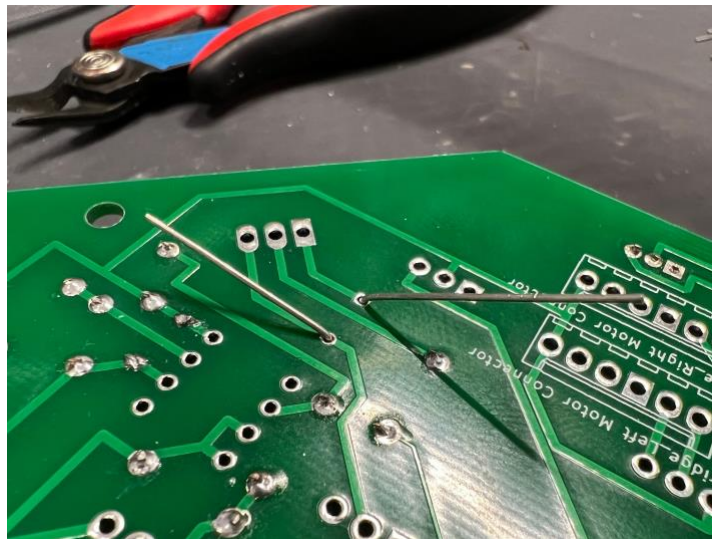

Figure 3.2: Picture of backside of PCB showing how to bend inserted leads to secure part for soldering.
2. Begin to solder the capacitors onto the board, **keeping them as tight to the board as possible** (remember you can secure them to the board before soldering by replicating the bending technique shown in Figure 3.2). Keeping the capacitors tight to the board will make the board less tall in the end and reduce the possibility of short-circuits.